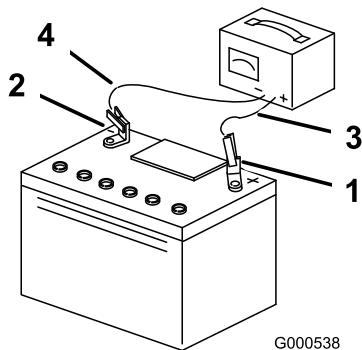

Figure 61
5. When the battery is fully charged, unplug the charger from the electrical outlet, and disconnect the charger leads from the battery posts (Figure 61).